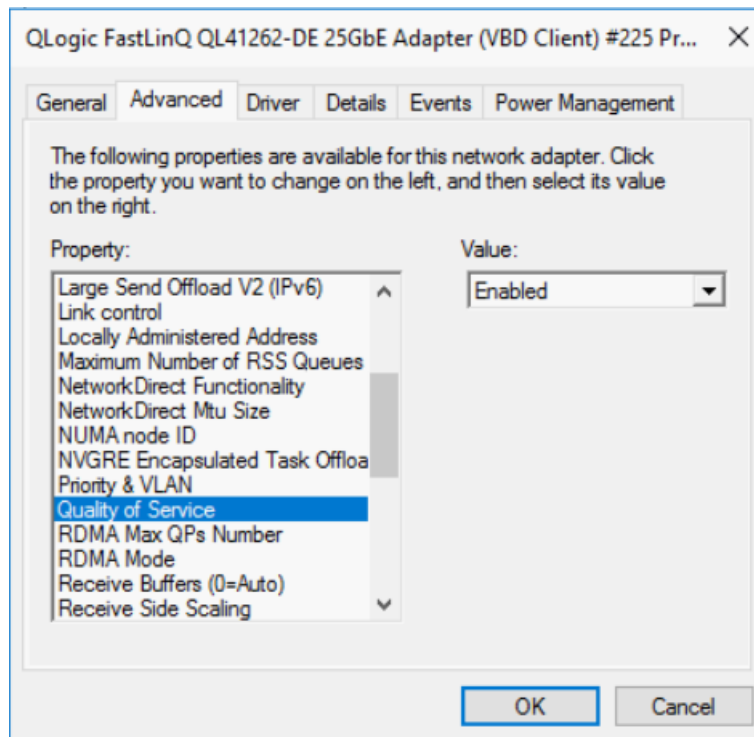

Figure 15-11. Advanced Properties: Enabling QoS
- a. On the adapter properties' Advanced page (Figure 15-11) under **Property**, select **Quality of Service**, and then set the value to **Enabled**.